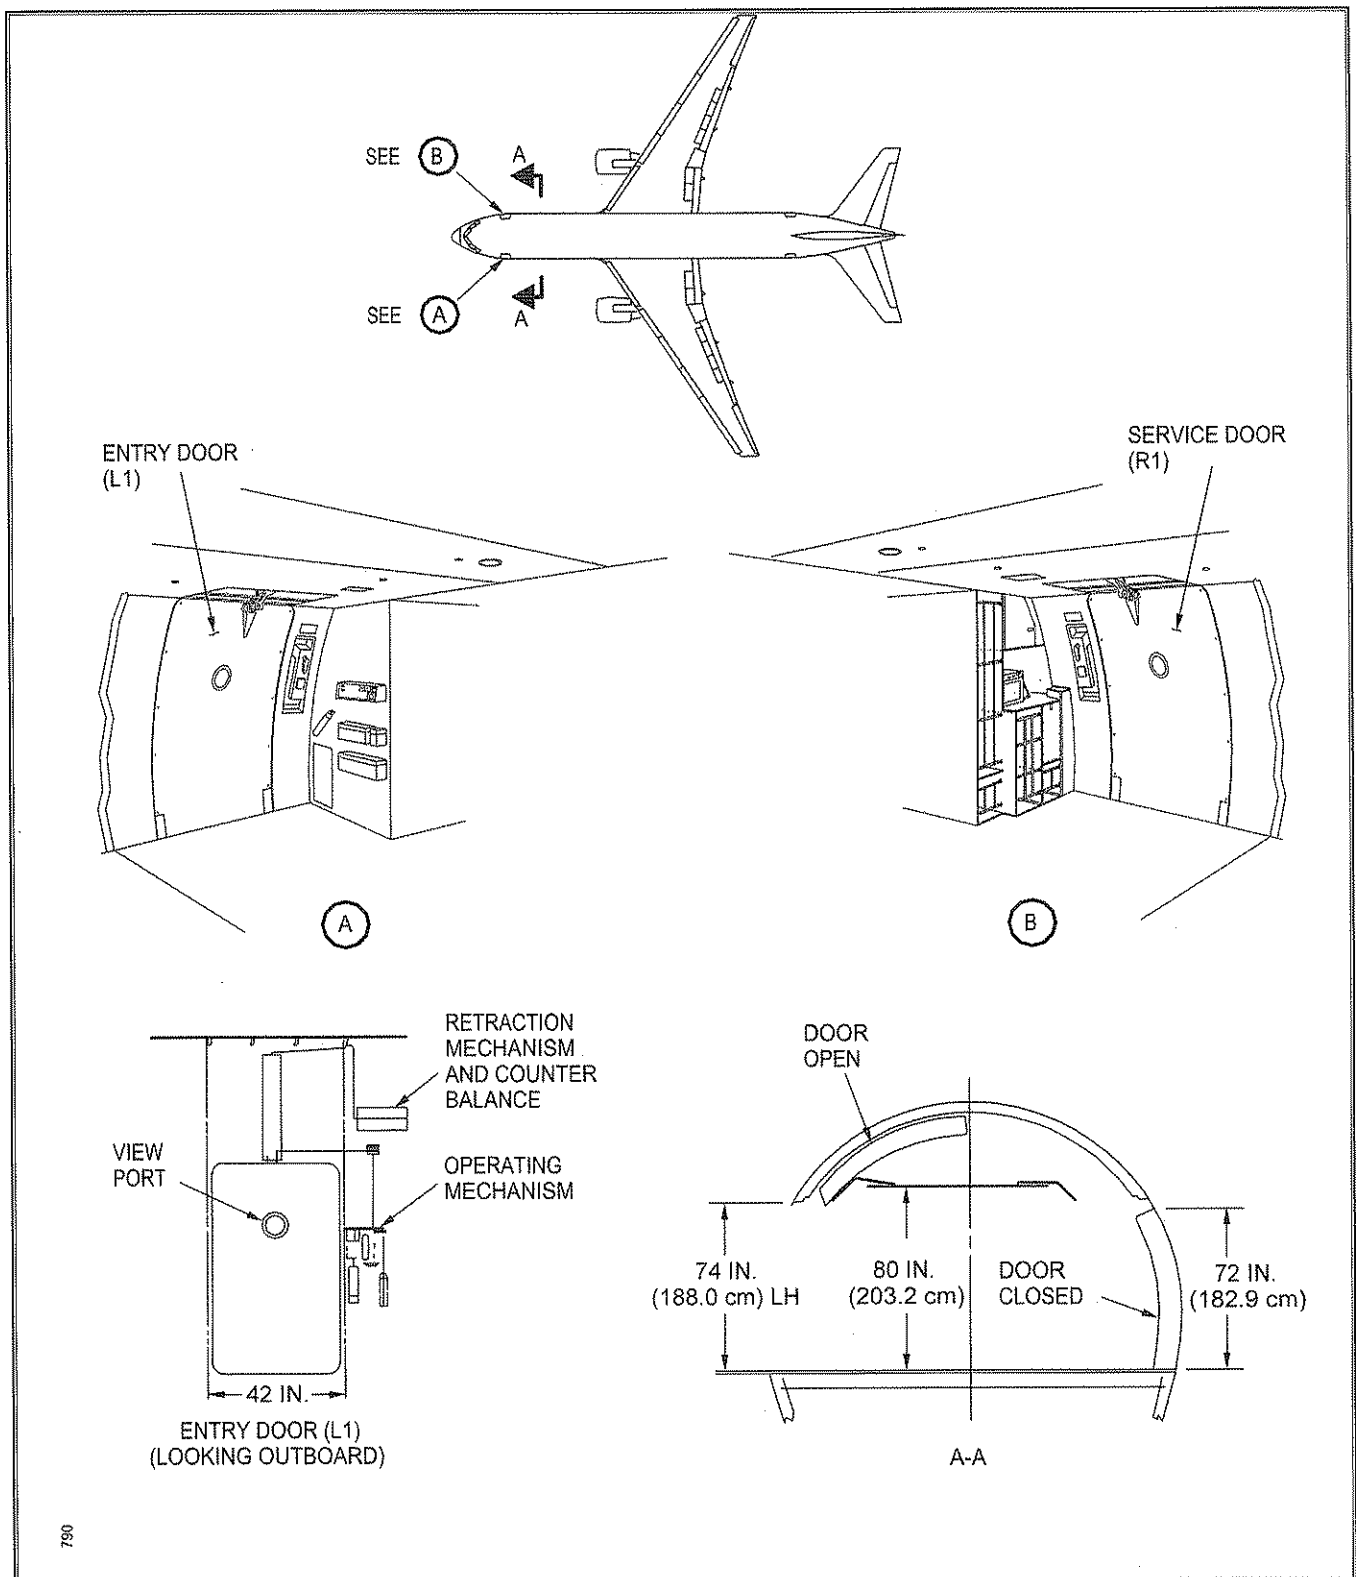

Figure 1
2. Component Details**A. Entry/Service Doors (Fig. 1)**